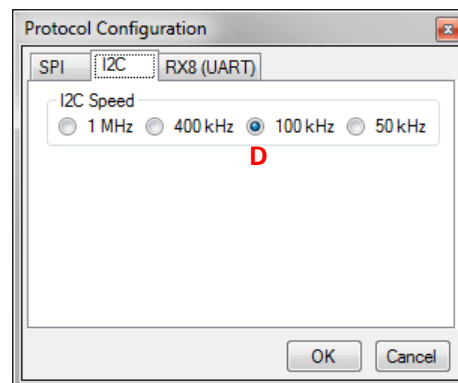

Figure 2: Bridge Control Protocol Configuration
- D. Go to "Tools -> Protocol Configuration -> I2C" and verify that 100KHz is selected (Figure 2).